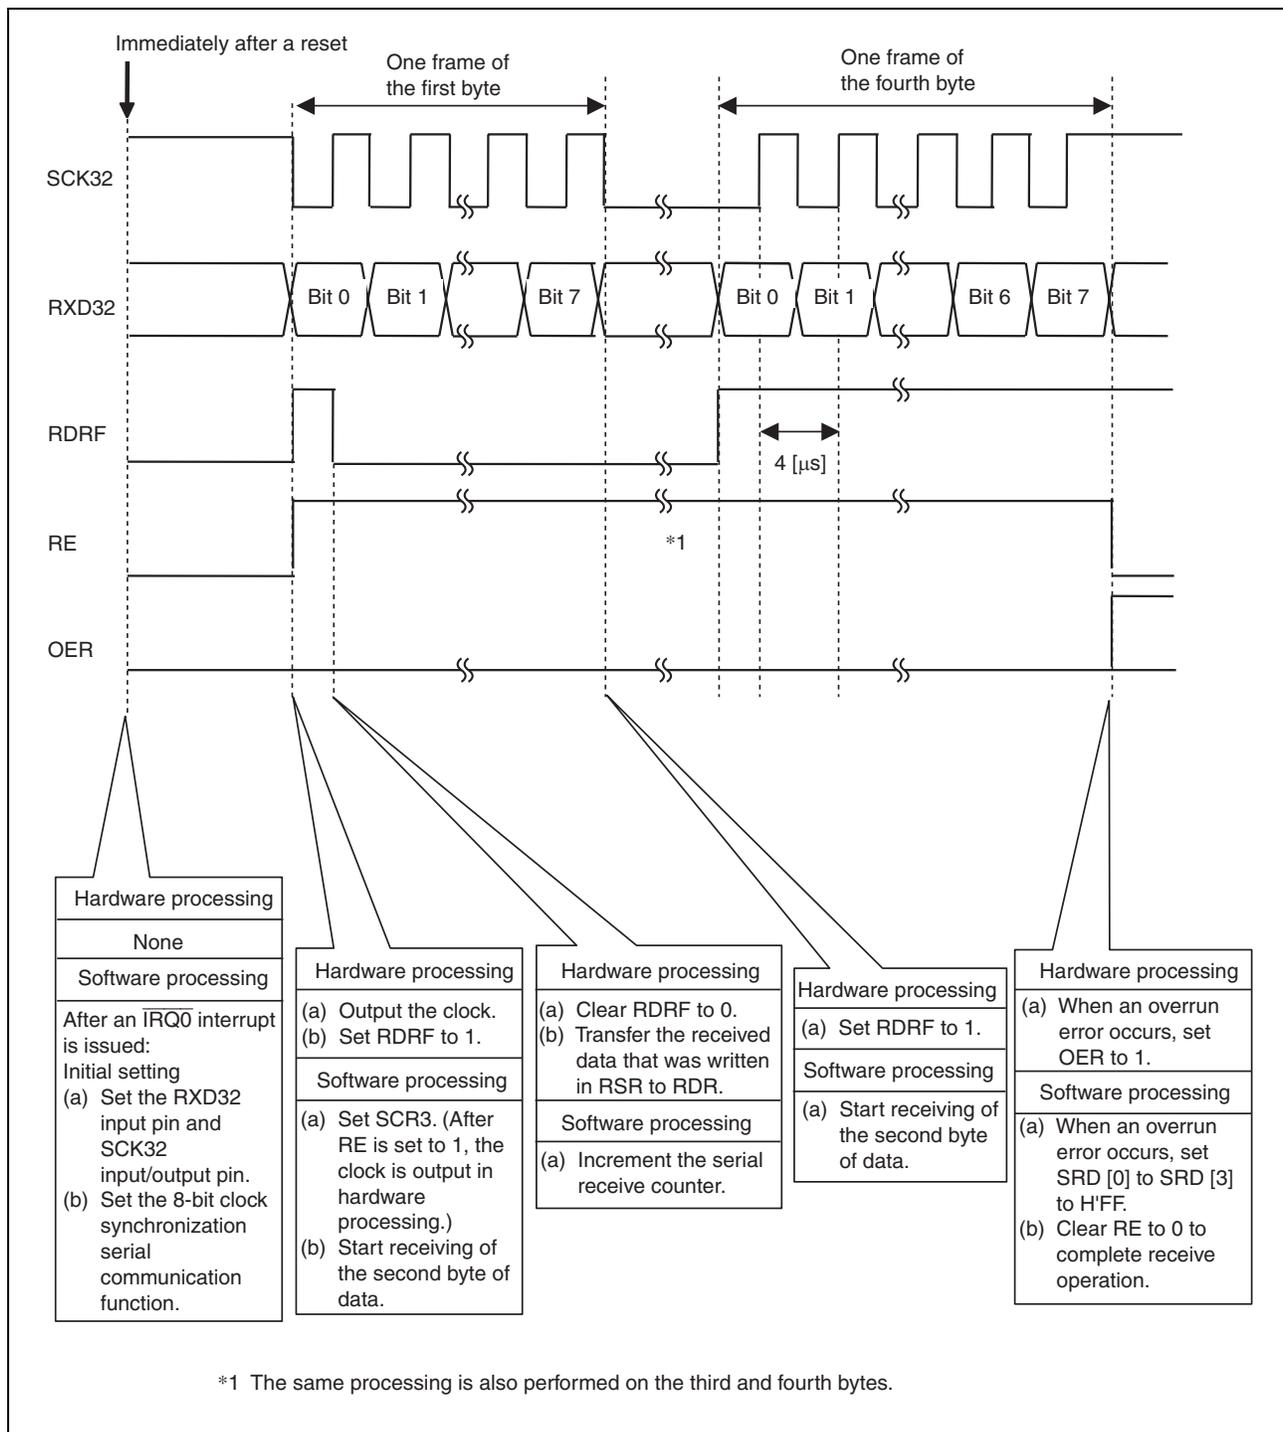

Figure 3 Operation during Reception of Data
- Figure 3 illustrates operation during clock synchronization mode reception in this sample task. It also describes software and hardware processings.